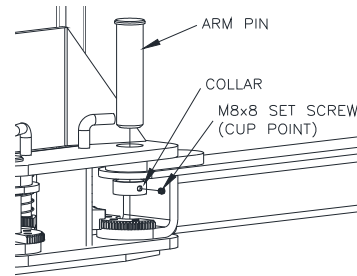

Fig. 10 –Arm Install
- 31) Lubricate the arm pin or carriage arm pin hole with “anti-seize” and install the arms as shown in **Fig. 10**. Once the set screw is finger tight against the arm pin, tighten ¼ turn with allen wrench.